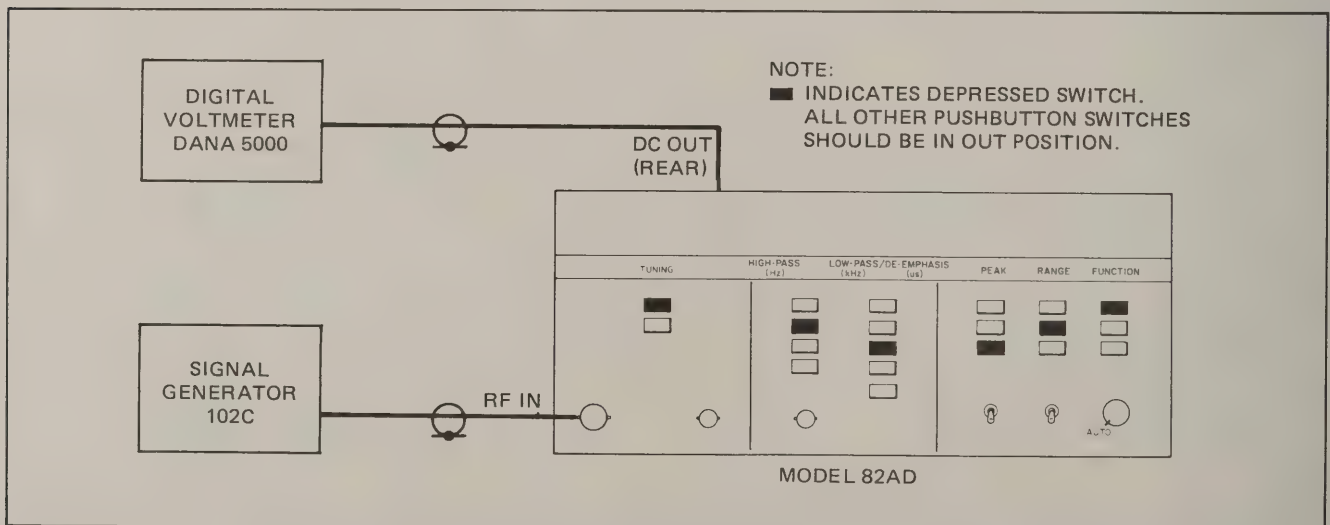

Figure 4-5 Digital Panel Meter Calibration Test Setup
a. Connect the equipment as shown in Figure 4-5. Depress the indicated Model 82AD switches.